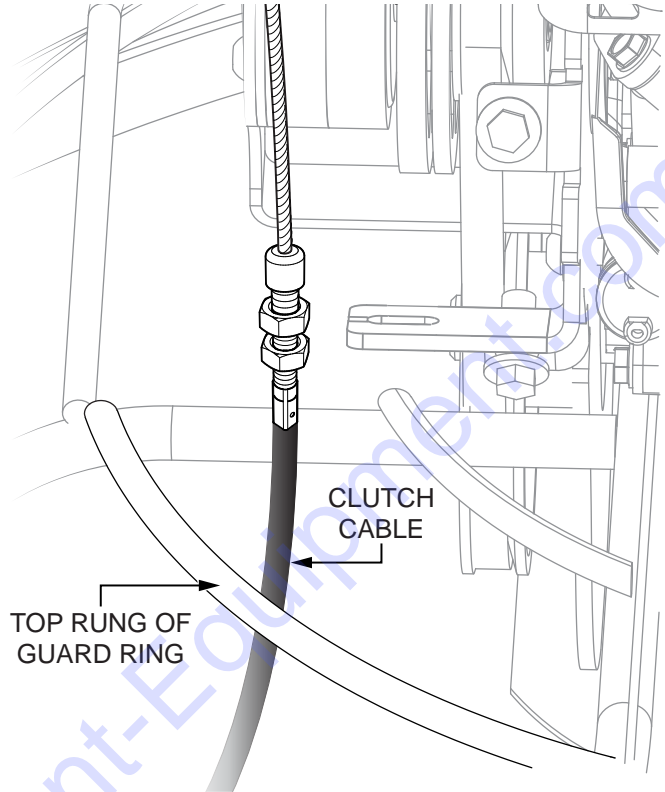

Figure 15. Clutch Cable Routing
5. Clutch cable routing differs depending on the trowel model. For trowel models **JH55C** or **JS60C**, route the clutch cable **underneath** the **topmost** rung of the guard ring (Figure 15). For trowel models **JH90C**, **BH90C**, **BH11C**, or **BS90C**, route the clutch cable **over** the **topmost** rung of the guard ring.